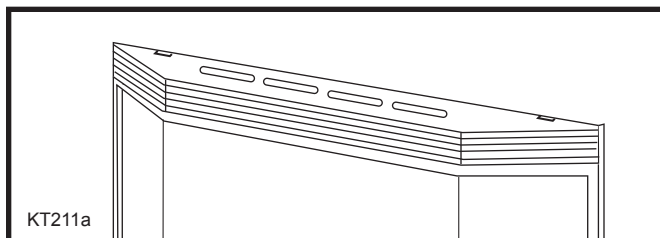

Fig. 36 Engage the slots in the upper grille top louvre with the upper tabs of the hanging brackets.
6. Install top louvre by engaging the oblong holes with the upper tabs of the hanging brackets. (Fig. 36)